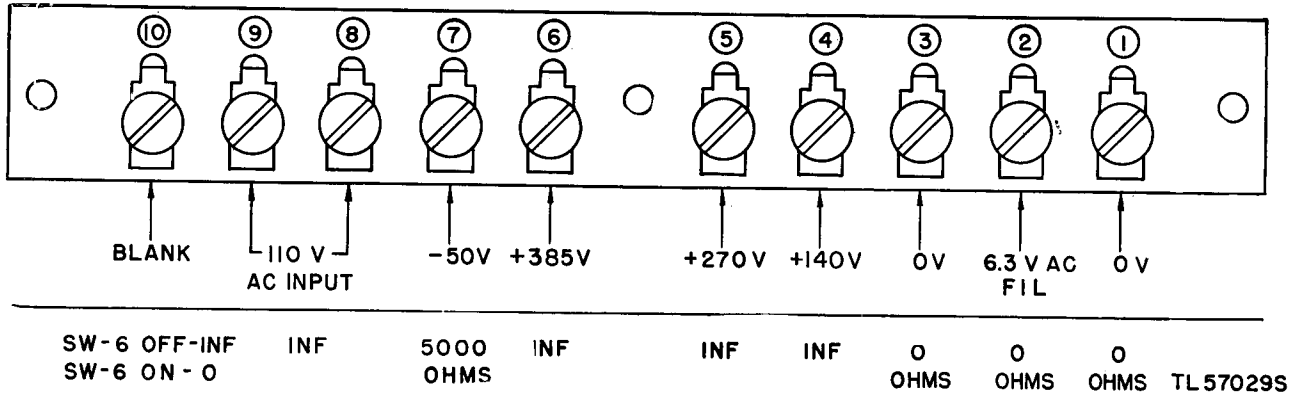

Figure 36. Receiver terminal strip, voltage and resistance measurements.
c. If no abnormal indication appears, measure the voltage and resistance between the terminals of terminal strip E4 and the receiver chassis (fig. 36). Correct readings will indicate that the power supply
| 3. Receiver inoperative. S-meter does not deflect as receiver is tuned. Dial lamps light. | 3. Failure of B plus supply..... Defect exists between antenna terminal and detector stage. | 3. Remove metal cover from receiver terminal strip E4 and compare voltages measured between each terminal and chassis with values shown (fig. 36). If no B plus voltage is present, check power supply unit tubes. If voltage is low, check filter capacitors C1 and C2. See symptoms 4 and 5, |